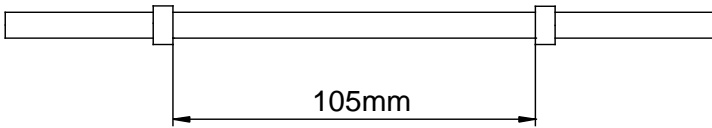

Figure 3. Stoppers for DT10 Pump Head
- 3) For DT10 only: Install two stoppers on the tubing to secure it to the pump head. Adjust the distance between the two stoppers to approximately 105mm for optimal performance, as illustrated in *Figure 3*.